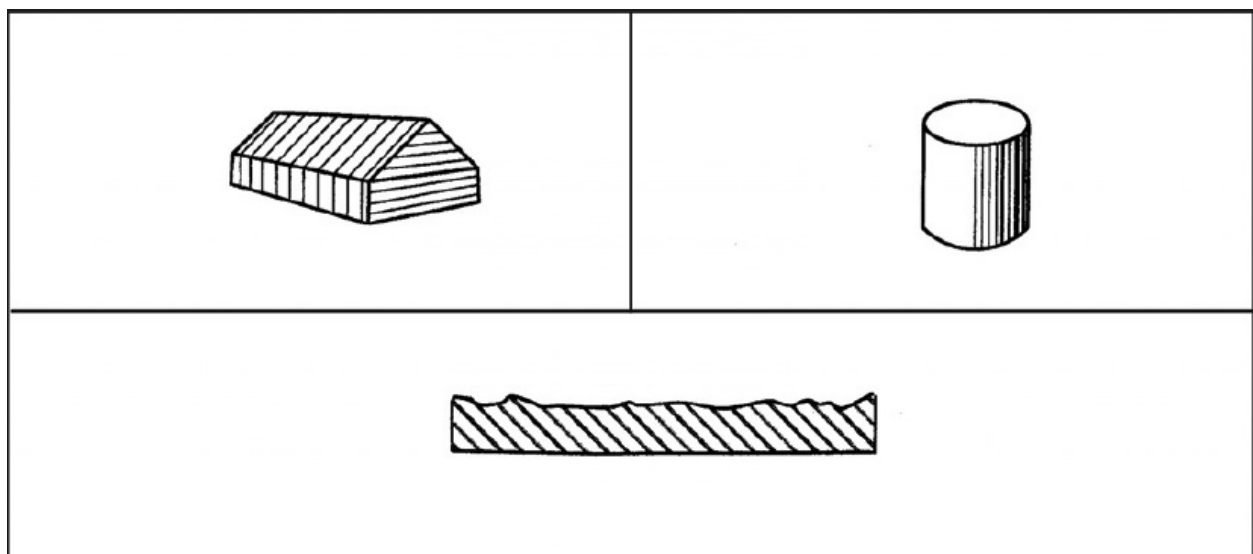

Figure 4-45. Hatchings that can add depth to objects
- Towns and villages as definite rectangular shapes to denote houses, he also shows the locations of towers, factory chimneys, and prominent buildings in the sketch. Again, detail can be added in subdrawings or hatchings (Figure 4-45).